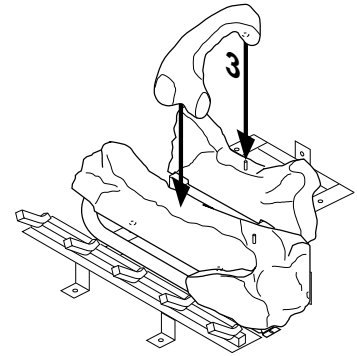

Figure 49 - Installing Log No. 3
3. Place log #3 (“C”-shaped crossover log) onto the rear and front logs. Make sure it is seated properly on the smooth surface on the front log and on the pin on the back log as shown in Figure 49.